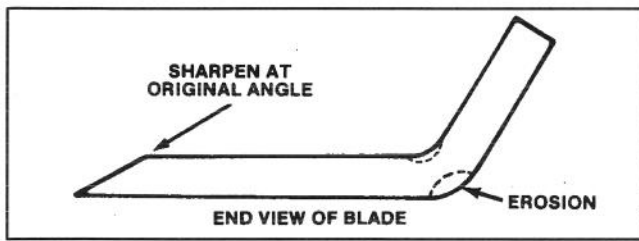

Figure 16
Check cutter blade every time rider is tipped on end. If bolt holding blade is loose, tighten it to 45–60 ft–lb. If blade or sail (Fig. 16) at end of blade is worn, eroded, or cracked, replace the blade. Replace the blade if it is bent or out-of-balance. Always use genuine TORO replacement blade to ensure safety and best performance. **NEVER USE WILL-FIT REPLACEMENT BLADE.**
7. Using a file, sharpen cutting edge at both ends of the blade (Fig. 16).
7. Since rider is tipped on end, check condition of blade (Fig. 16).